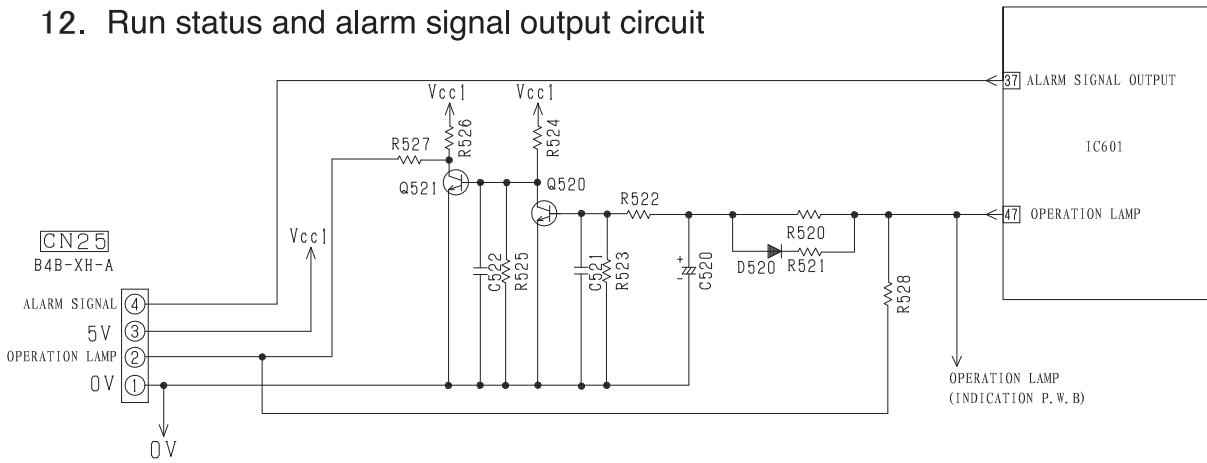

Fig.12-1
Fig.12-1 is the control circuit of run status and signal output in main PWB. The pin ② of CN25 is used to show run status and the pin ④ of CN25 is used to warn people when failure occurrence. If customer want to use this function, need to use the adapter(sold separately) to achieve it. the adapter is optional and the detail circuit refer to following circuit.